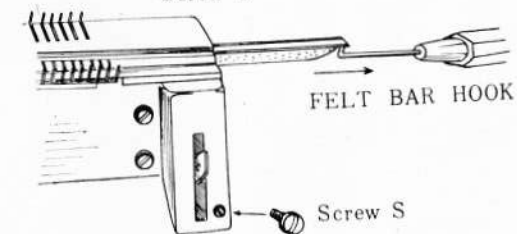

Fig 59B
4. With hook 14, Fig. 7, pull out the felt bar unit as shown in Fig. 59B.